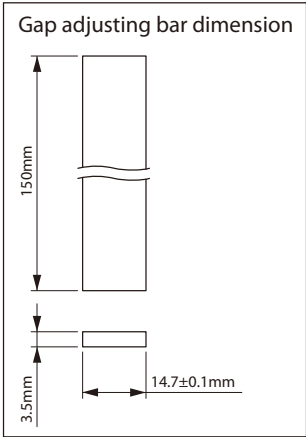

Figure 8-28
- (3) Insert the gap adjusting bar (customer to prepare an angle plate. See Figure 8-28) between the outer disc [14] and the center ring [1] into a hole for a gap adjusting screw [2].